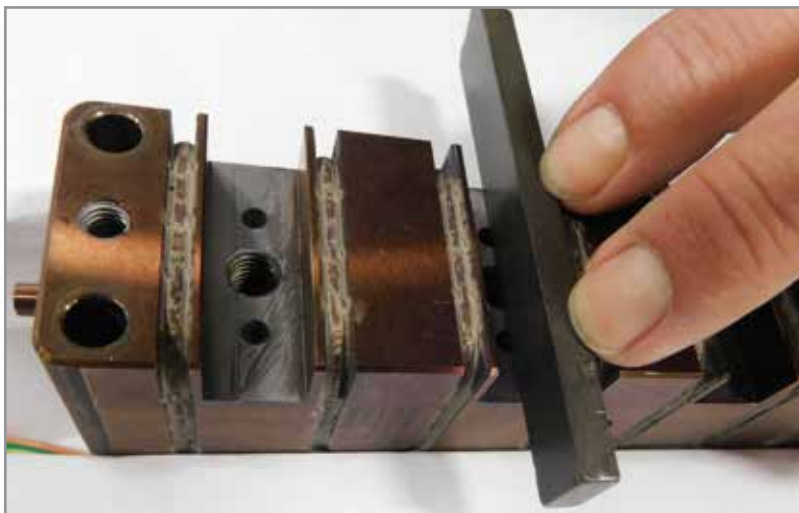

Figure 5-87 Clean manifold interfaces
2. Clean the manifold interfaces with a fine grade (400 or 600 grit) polishing stone. See Figure 5-87.
7. Clean the manifold interfaces on Melt-Cube using a fine polishing stone. See “Figure 5-87 Clean manifold interfaces” on page 5-142.